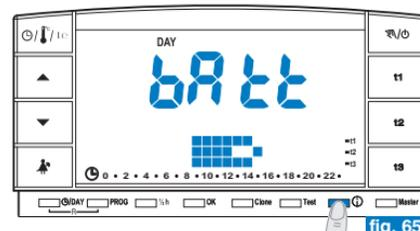

fig. 65
- From the previous screen press **i** again: the display will show the battery charge level (example in fig. 65).
- From the previous screen (fig. 65), press **ⓘ** again: the display will show a serial number, which is transmitted by the chronothermostat each time data transmission is carried out (example in fig. 67).